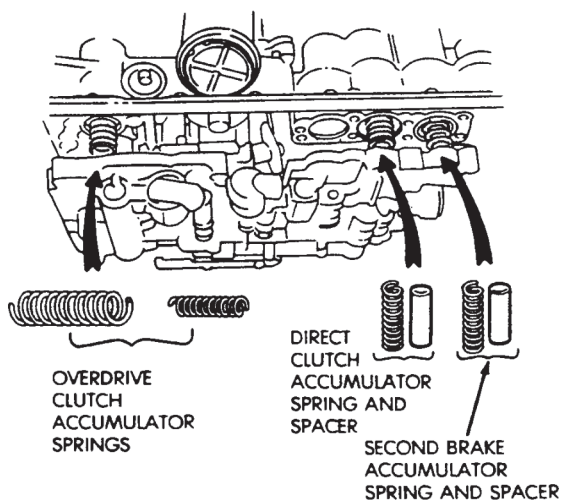

Fig. 15 Accumulator Springs
(7) Lower valve body and remove overdrive clutch accumulator springs; direct clutch accumulator spring and spacer; second brake accumulator spring and spacer (Fig. 15)